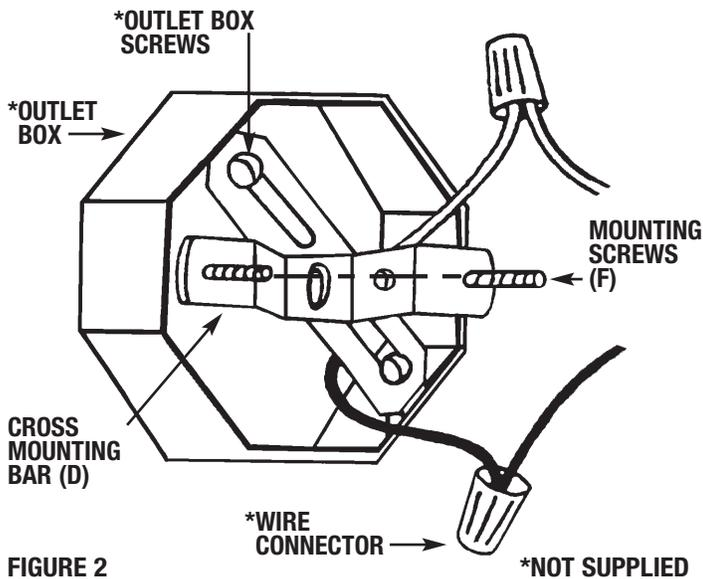

FIGURE 2
GROUNDING INSTRUCTIONS: The green grounding screw (L) is to be inserted into the hole with two raised dimples provided on the cross mounting bar (B). Wrap the ground wire from the fixture (if supplied) and the ground wire from the outlet box (bare metal or green insulated wire) around the green grounding screw (L) on the cross mounting bar (B) if uninsulated ground wire is on the cross mounting bar (B), connect the ground wire from the fixture (if supplied) and the outlet box to it using a small wire connector (not supplied) (See Figure 2).